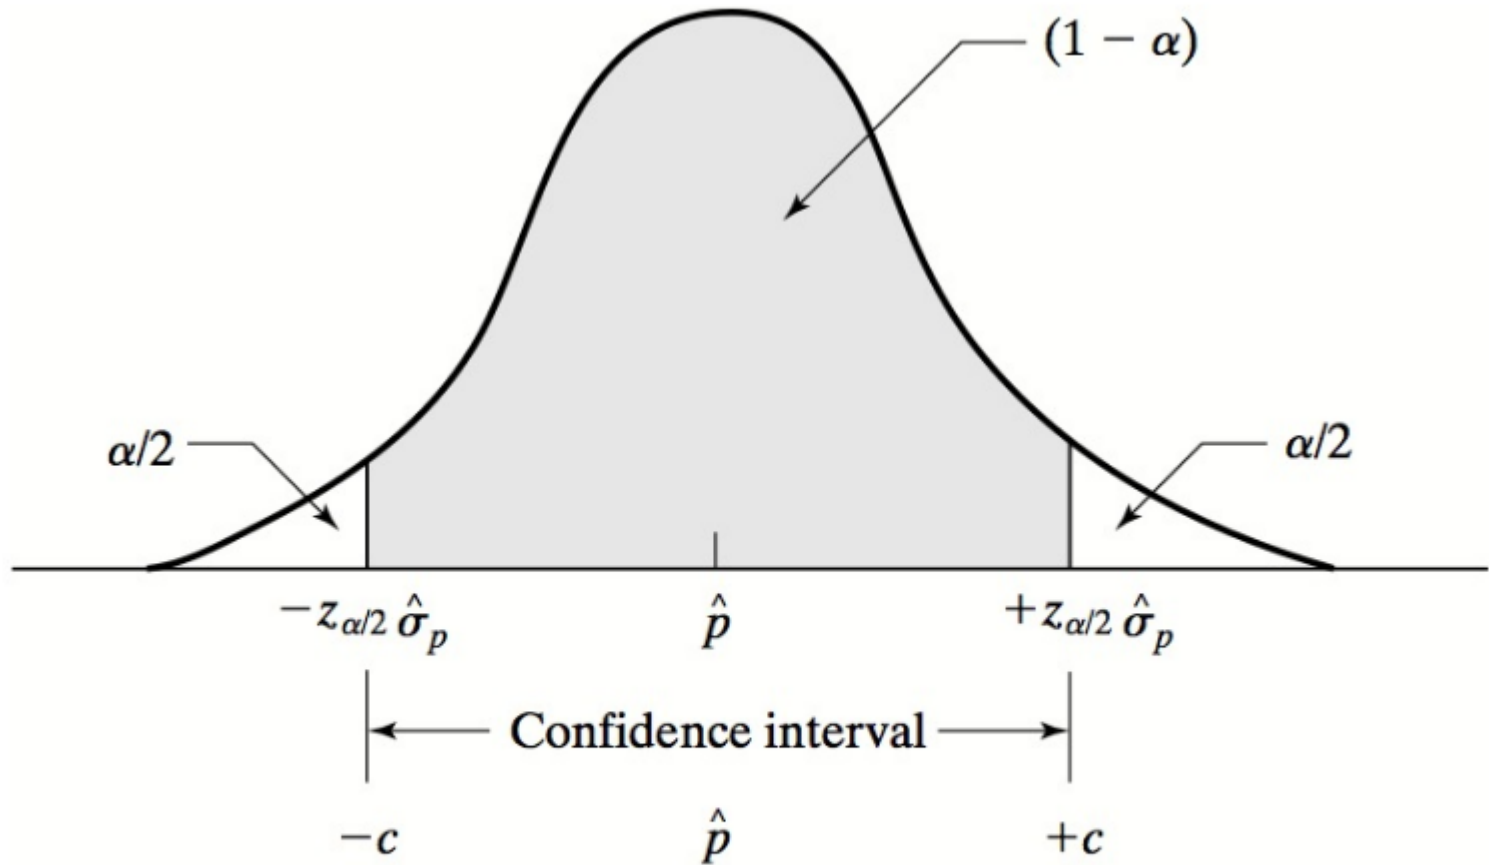

Figure 2 Confidence interval superimposed on the normal distribution, with $(1 - \alpha)$ and $Z_{\alpha/2}$ defined.
- Rearranging (fig. 2):
- \Rightarrow confidence interval = $p \pm c$ (fig. 2)